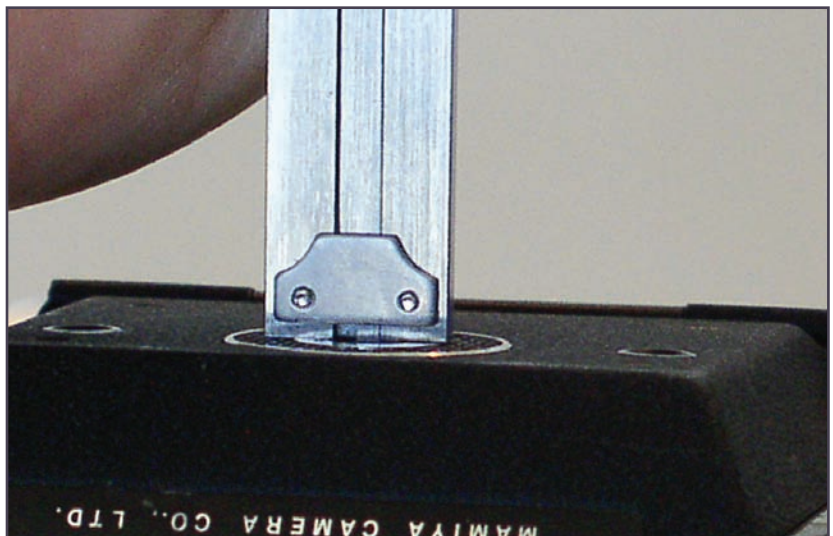

Figure 11: To measure a depth, hold the end of the caliper against the object you're measuring.
2. Hold the caliper on the flat surface you're measuring against (figure 11).